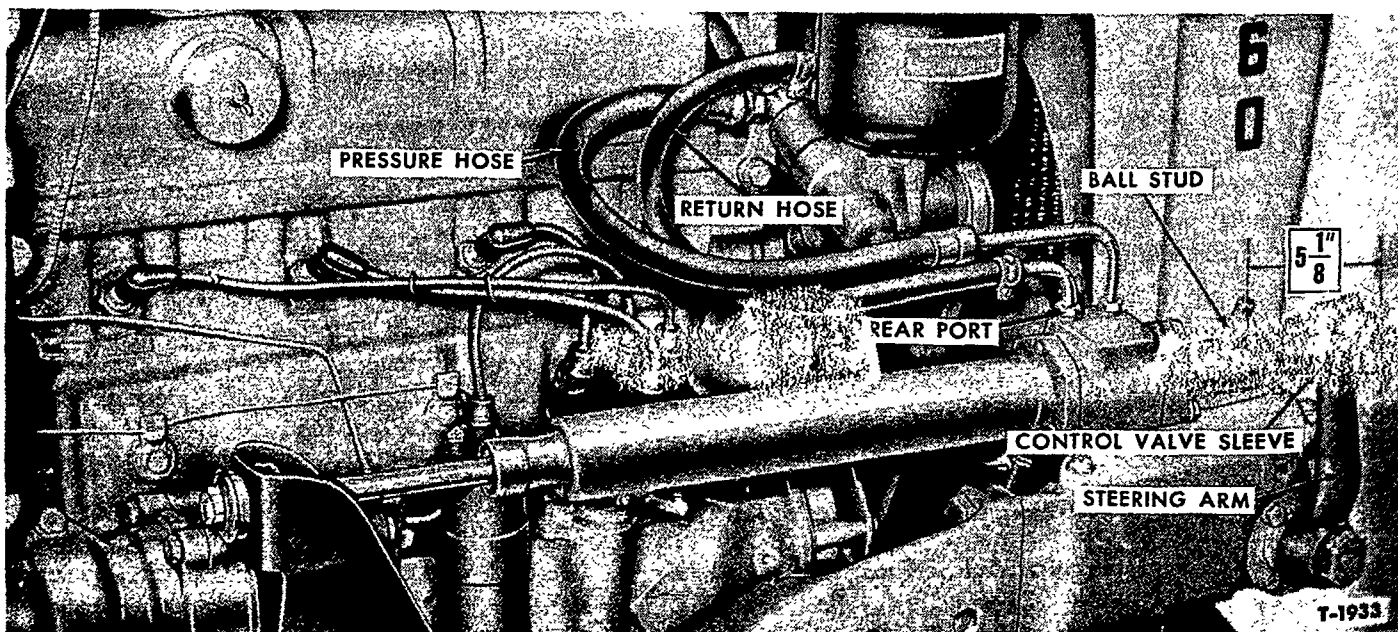

Figure 28—Adjustment of Power Cylinder and Control Valve to Steering Arm
- a. Raise the tractor front end to free the wheels, then align the front steering arm vertically as shown in Figure 28.
5. Adjust the distance from the center of the ball stud in the sleeve and flange assembly, to the center of the ball stud in the steering arm by rotating the cylinder and control valve assembly. The distance between these centers should be 5 $\frac{1}{8}$ " as shown in Figure 28.